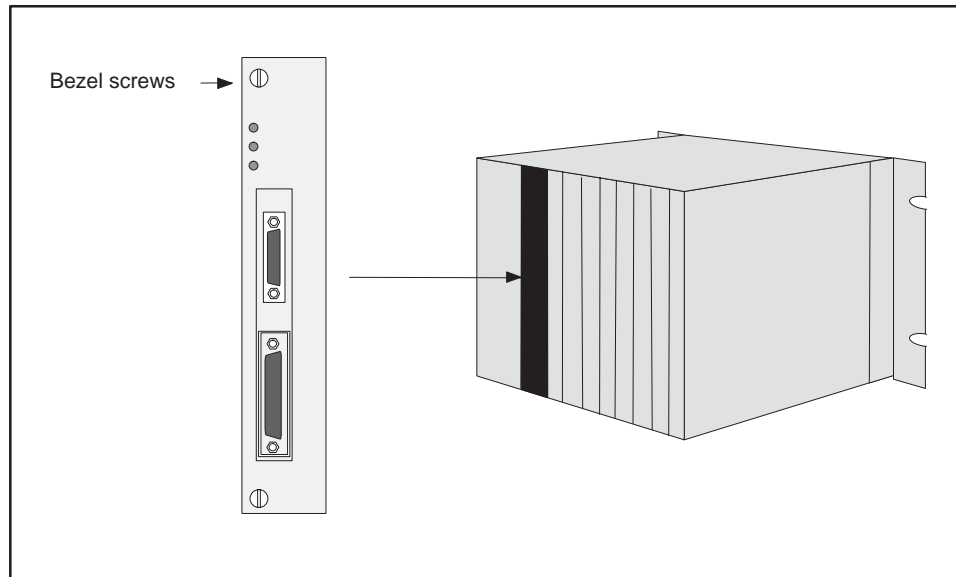

Figure 3-20 Location of PLC in Base
3. Insert the PLC into its slot adjacent to the power supply as shown in Figure 3-20.